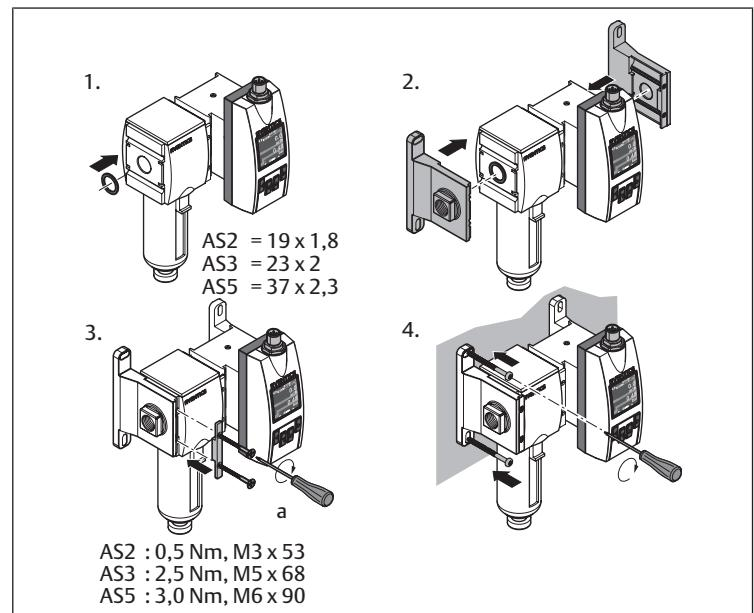

Fig. 6: Assembly with block assembly kit | W05
- Assembly with block assembly kit (without air preparation unit): see → Fig. 6.